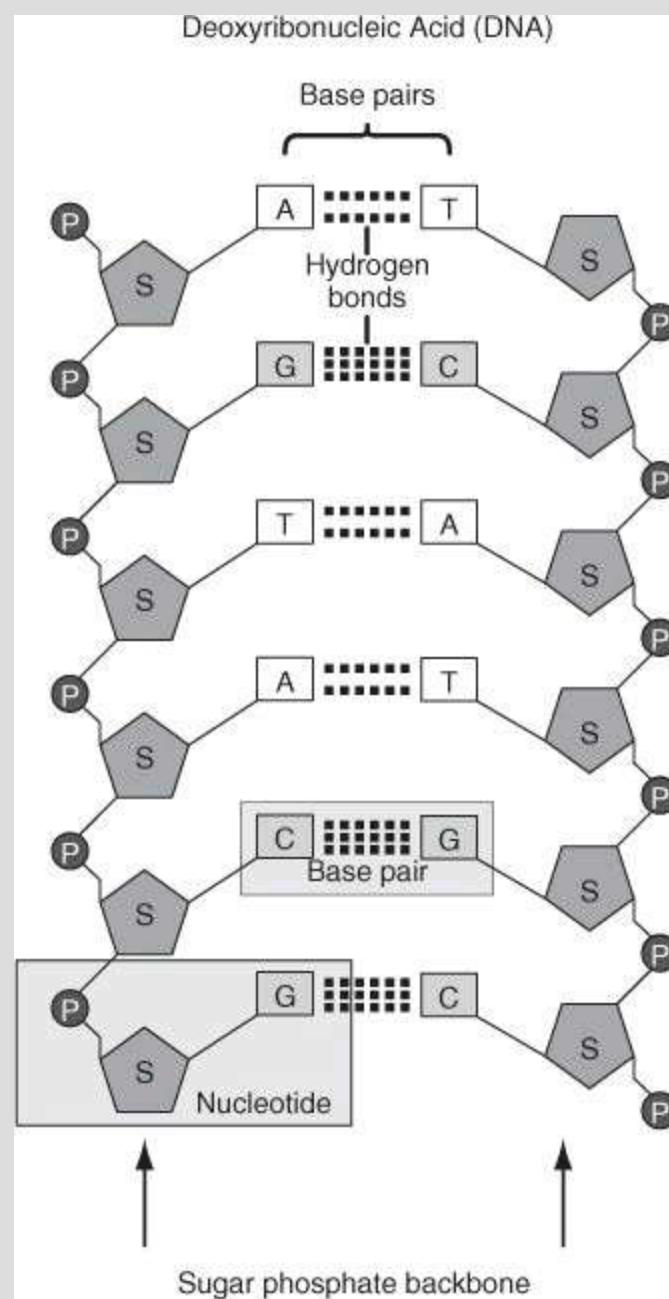
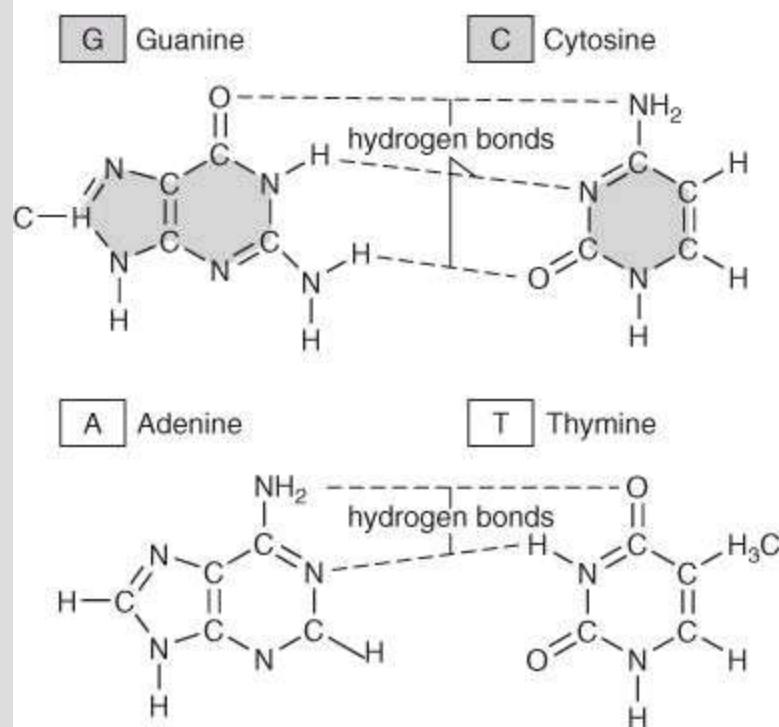

Figure E2.8a. A two-dimensional representation of a section of DNA that is shown in Figure E2.8c in three dimensions
Figure E2.8b. A two-dimensional representation of the chemical compounds of the respective bases G, C, A, and T
Nearly all living things contain DNA (which stands for deoxyribonucleic acid), namely, the molecule that stores **genetic information**. DNA consists of a series of nucleotides (look at Figure E2.8a). Each nucleotide is denoted by the base it contains, abbreviated as follows: A (for adenine), C (for cytosine), G (for guanine), or T (for thymine). Figure E2.8b shows in two dimensions the composition of each base. The most famous form of DNA in a cell is composed of two very long backbones of sugar (S) phosphate (P) molecules forming two intertwined chains
The length of a segment of DNA is measured in the number of base pairs (as indicated in Figures E2.8b and E2.8c); 1 kb is 1000 base pairs (bp), and 3 kb = 1 μ m. The sugar phosphate backbone is connected by successive combinations of A, T, G, and C.